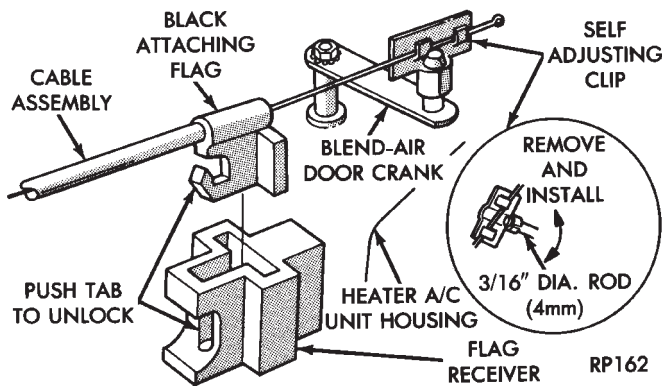

Fig. 2 Temperature Control Cable—Typical
(1) Remove heater-A/C control panel. Refer to Switch and Panel Component Service in Group 8E, Instrument Panel. Disconnect the attaching flag on the control cable from the heater-A/C control panel.
(2) Remove console assembly. Refer to Group 8E, Instrument Panel.
(3) Remove instrument panel lower steering column cover. Refer to Group 8E, Instrument Panel.
(4) Remove the right lower instrument panel/glove box door assembly. This assembly is clipped to the upper instrument panel at the right upper side.
(5) A/C equipped vehicles: From under the hood, disconnect the A/C suction line mounting bracket from the dash panel (above the expansion valve).
(6) From under the hood, loosen (do not remove) the four heater-A/C assembly to dash panel mounting nuts.
(7) From inside the vehicle: Remove the vertical (heater-A/C housing) support bracket (below the glove box).
(8) Tilt the entire heater-A/C housing assembly downward to gain access to the temperature cable.
(9) Locate and disconnect the attaching flag on the control cable at the heater-A/C housing (Fig. 2).